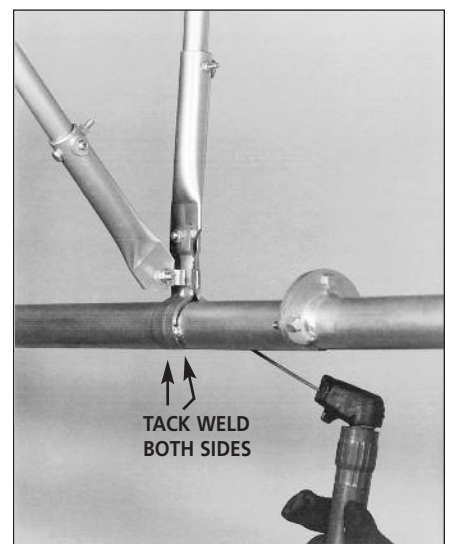

Figure 9
- After all track is in place and after 10 ft. of chain is pulled through the system, all TH-300, TH-200, TH-210 track hanger clamps can be welded in place. (See **Figure 9**)